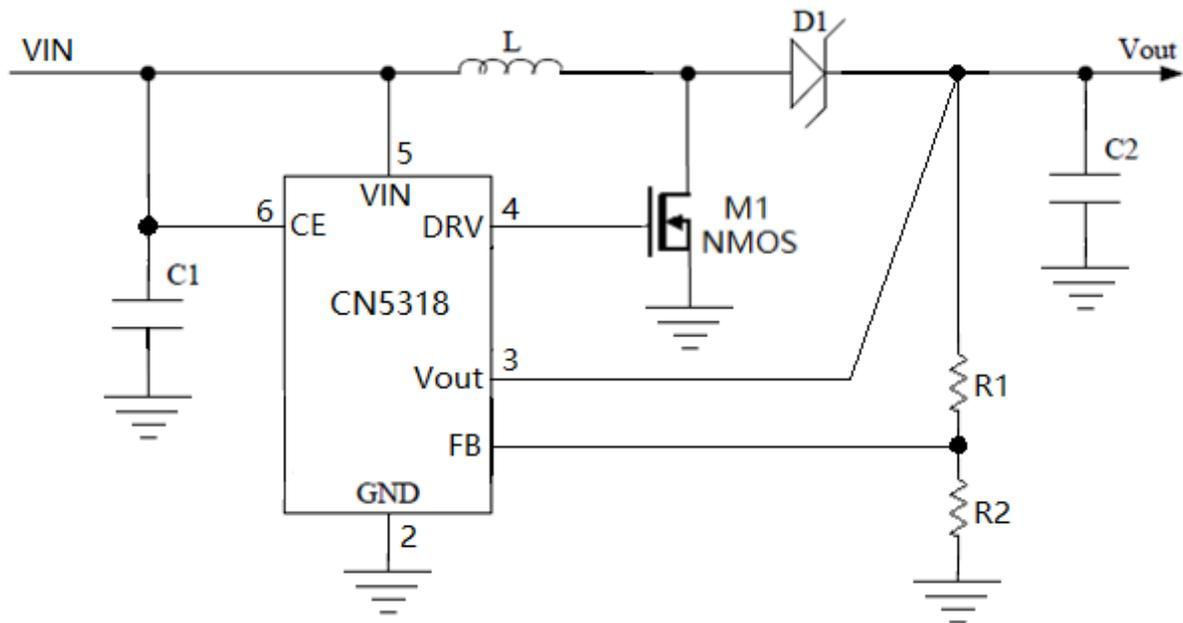

Figure 1 Typical Application Circuit
The output voltage of CN5318 is set with external feedback resistor at FB pin as shown in Figure 1, in which resistors R1 and R2 serve the purpose. The output voltage is calculated with the following equation:
- R1 and R2 are the feedback resistors as shown in Figure 1
The forward voltage of the freewheeling diode (D1 in Fig.1) should be as low as possible for better efficiency. A Schottky diode is a good choice as long as the breakdown voltage is high enough to withstand the output voltage. The forward current rating of the diode must be at least equal to the maximum output current.